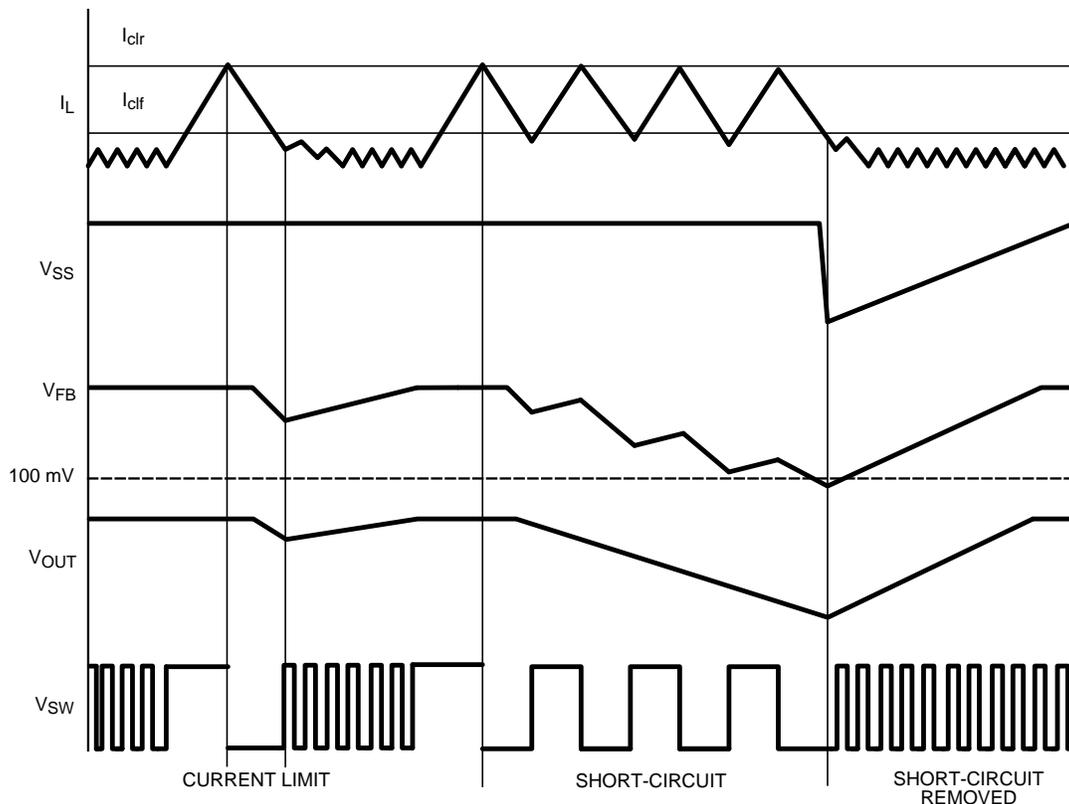

Figure 23. Current Limit Conditions
A current limit condition will cause the internal soft-start voltage to ramp downward. After the internal soft-start ramps below the Feedback (FB) pin voltage, (nominally 0.6 V), FB will begin to ramp downward, as well. This voltage foldback will limit the power consumption in the device, thereby protecting the device from continuously supplying power to the load under a condition that does not fall within the device SOA. After the current limit condition is cleared, the internal soft-start voltage will ramp up again. Figure 23 shows current limit behavior with  $V_{SS}$ ,  $V_{FB}$ ,  $V_{OUT}$  and  $V_{SW}$ .